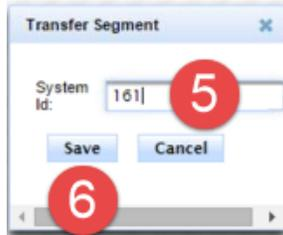

Figure 133: Supervisor Segment Transfer, Steps 5 and 6
4. Click **Transfer** on the drop-down menu. The **Transfer System** pop-up window appears, as depicted in Figure 133.